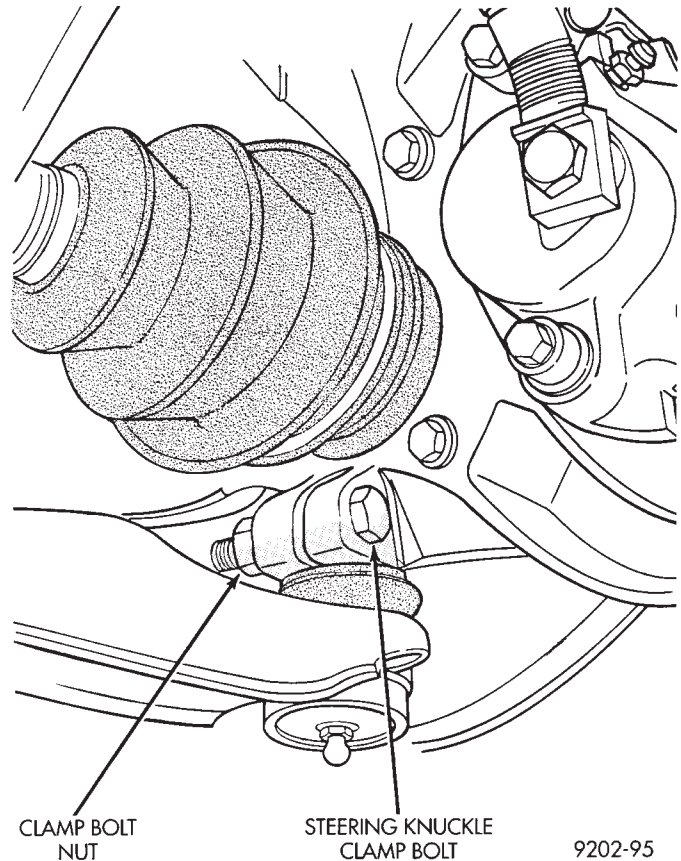

Fig. 7 Remove or Install Steering Knuckle Clamp Bolt
(8) Remove the clamp nut and bolt (Fig. 7) securing the ball joint stud into the steering knuckle.